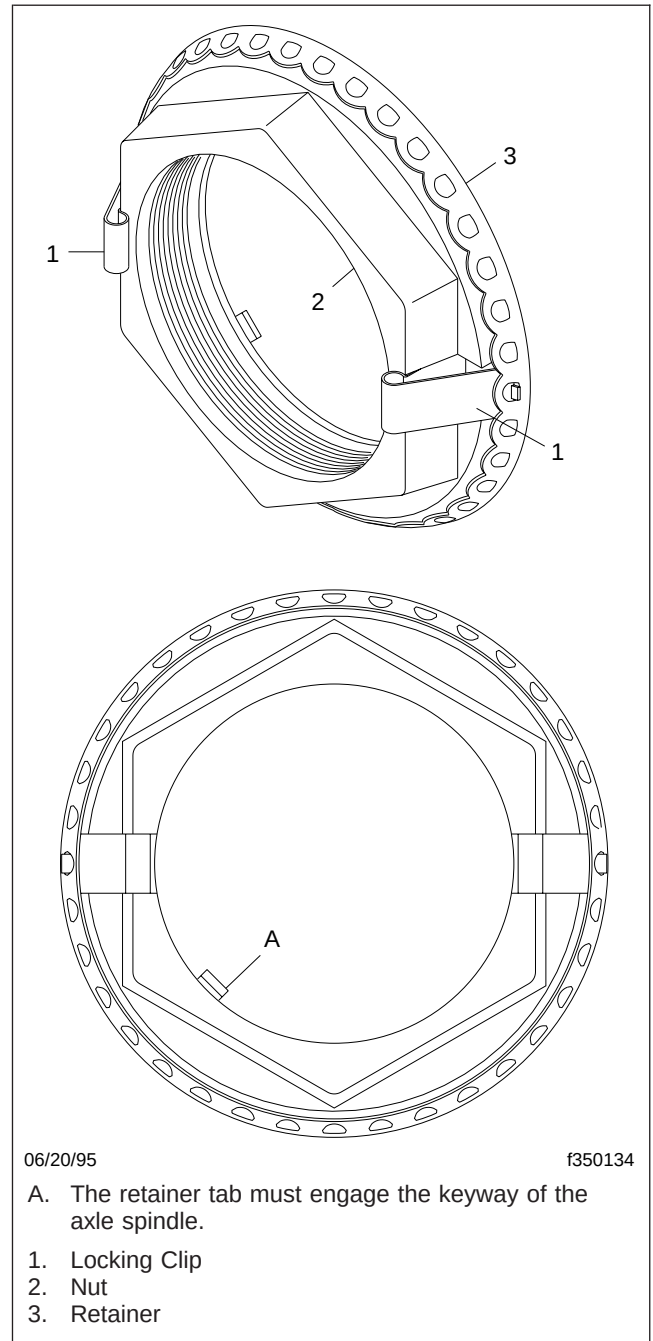

Fig. 1, Rear Axle Axilok Nut
Axilok® spindle nuts may be used on ConMet PreSet hubs. See Fig. 1. These nuts can be damaged if they are not removed or installed correctly. Use the following guidelines when removing and installing Axilok retaining nuts.
2. By hand, install the Axilok nut onto the axle spindle. See Fig. 1.